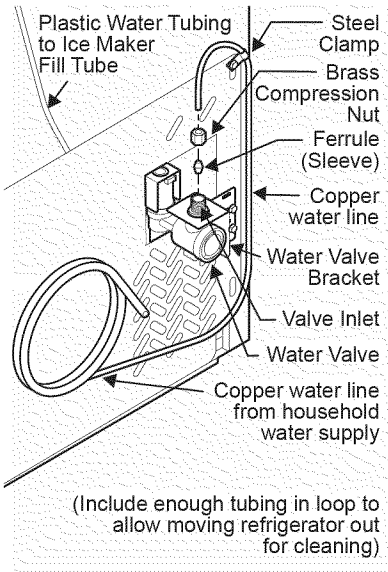

Figure 1
4. If you use copper tubing - Slide brass compression nut, then ferrule (sleeve) onto water supply line. Push water supply line into water valve inlet as far as it will go (¼ inch/6.4 mm). Slide ferrule (sleeve) into valve inlet and finger tighten compression nut onto valve. Tighten another half turn with a wrench; **DO NOT** overtighten. See Figure 1.